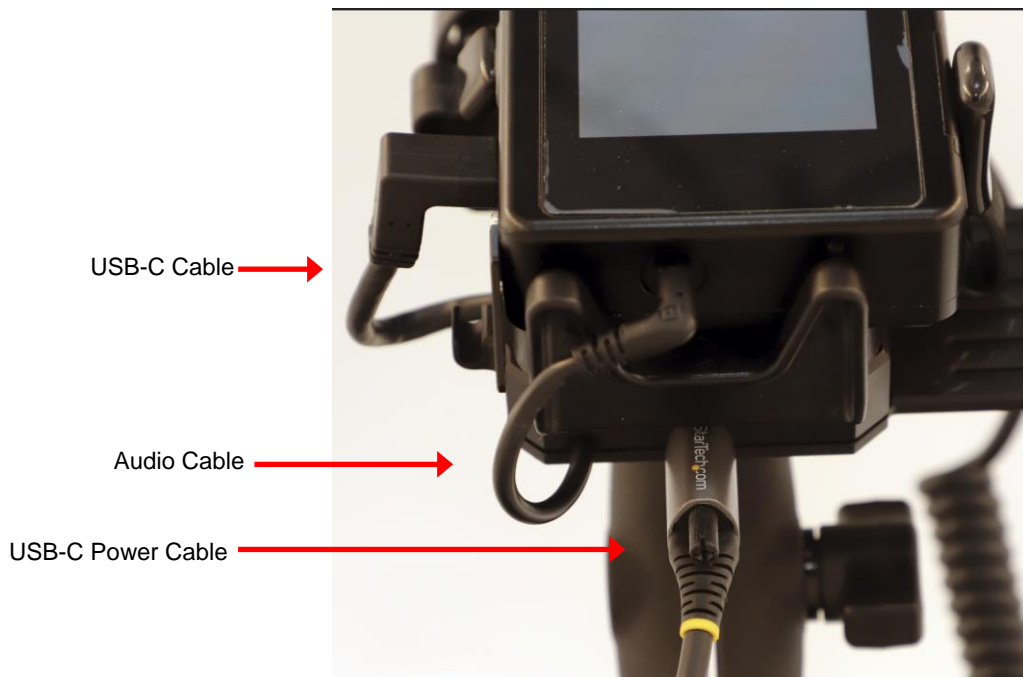

Figure 128: Audio Amplifier Module Bottom View: USB-C Cables and Audio Cable Connected to SHOUT sp Device
The Car Charger Power Cable is a three (3) ft. top screw locking USB C cable USB3.1/3.2 Gen 2 Type C Cable, 100W/5A, DP Alt Mode (see **Figure 134**). The car charger USB-C cable connects to and applies power to the Audio Amplifier module (see **Figure 128**), which in turn charges the mounted SHOUT sp device.